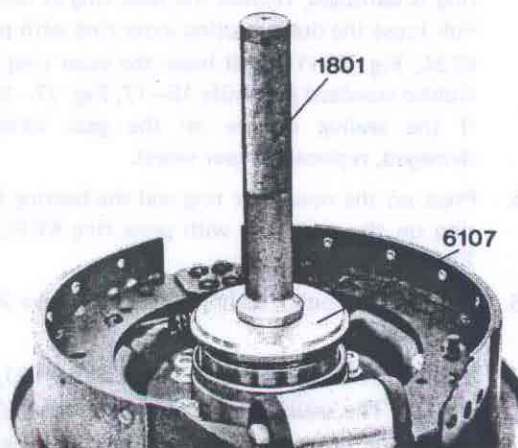

Fig. 77-17. Installing the outer bearing outer ring
10. Press on the outer bearing outer ring with drift 6107 and standrad handle 1801, see Fig. 77-17.